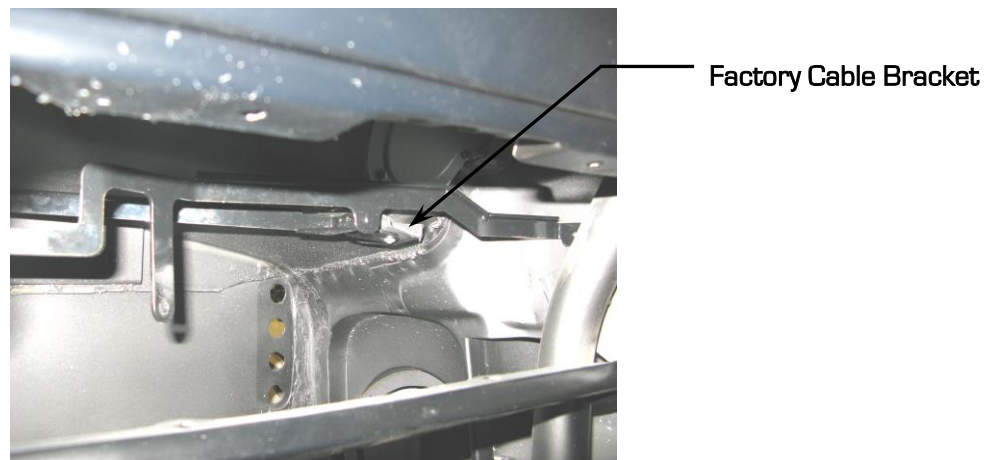

Figure 3 - Cable Bracket Attachment
- a. On a non-factory a/c car, install the provided 1/4" J-nut onto the existing cable bracket and use a 1/4" - 20 x 3/4" Hex Head Bolt and thread the bolt into the J-nut. Refer to Figure 3 below. Tighten all of the hardware at this time.